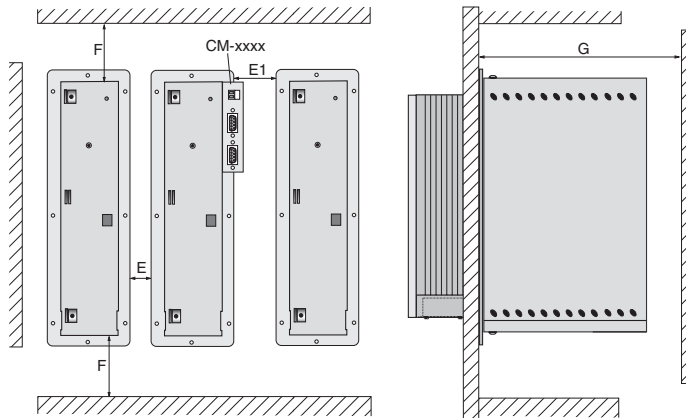

Figure 2.3 Mounting clearances (see Table 2.4)
2) Dimensions E to G see Figure 2.3